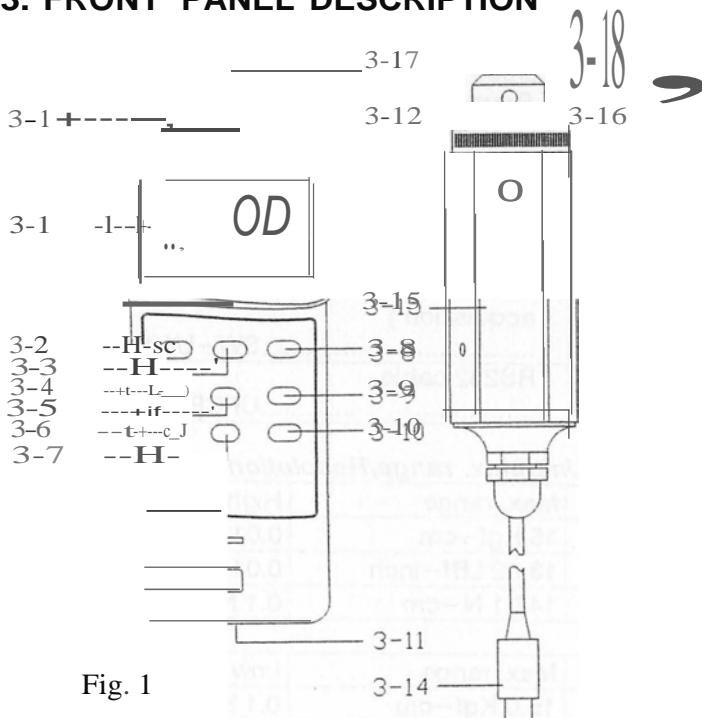

Fig. 1
- 1) Plug in the " Sensor Cable Plug " (3-14, Fig. 1) to meter's " Sensor Input Socket " (3-12, Fig. 1).
- 2) Power on the meter by push the " Power Button " (3-2, Fig. 1).
- 3) Push the " Sensor Type Button " (3-8, Fig 1) to check if the meter's sensor type is same as the external torque sensor.
Push the " Unit Button " (3-5, Fig. 1) to select the unit Kgf-cm, LBf -inch or N-cm (Newton -cm).
Push the " Resolution Button " (3-7, Fig. 1) to select the High resolution or Low resolution.
The " Fast/Slow Button " (3-10, Fig. 1) is used to select the fast sampling time or slow sampling time.
7) To connect the " Cramp " (3-17, Fig. 1) to the measured installation and use the " Opinion " (3-18, Fig. 1) to lock the " Gear " (3-16, Fig. 1). Ref. Fig. 2 & Fig. 3.
Before the measurement, if the meter not show zero value, it can push the "Zero Button" (3-9, Fig. 1) to tare the display value, the LCD will change to zero value.
During the measurement, push the "Peak Button" (3-6, Fig. 1), the LCD will show the "PEAK" indicator & the display will hold the peak value.
During the measurement, pushing the "Hold Button" (3-3, Fig. 1) will freeze the measured value & display will indicate "HOLD" symbol. Push the "Hold Button" again to release the data hold function.
- * The DATA RECORD function displays the maximum and minimum readings. To start the DATA RECORD function, press the "Max./Min. Button" (3-4, Fig. 1) once. "REC" symbol will appear on the LCD display.
- (a) Push the "Max./Min. Button" (3-4, Fig. 1) once, the "Max" symbol along with the maximum value will appear on the display.
To disable this feature, Select the memory record function during measurement, by pressing the " **Max./Min.** " button (3-4, Fig. 1).
The instrument features an RS232 output via 3.5 mm Terminal (3-13, Fig. 1).